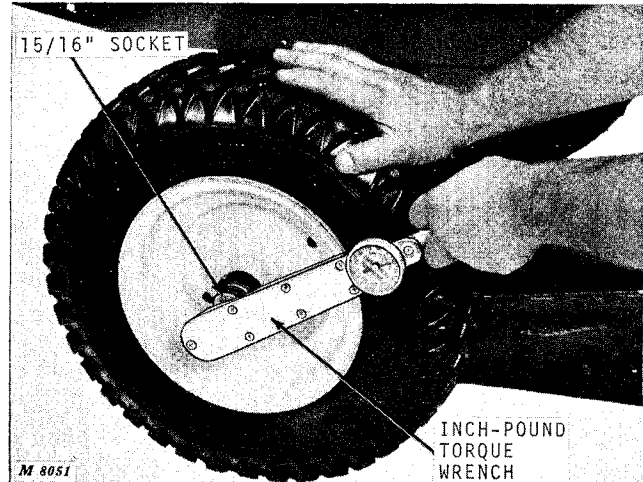

Fig. 11-Adjusting Wheel Bearing
4. While rotating the wheel and tire, tighten the slotted nut to 60 to 120 in-lbs torque to seat the bearings, Figure 11. Back off slotted nut until wheel turns freely.